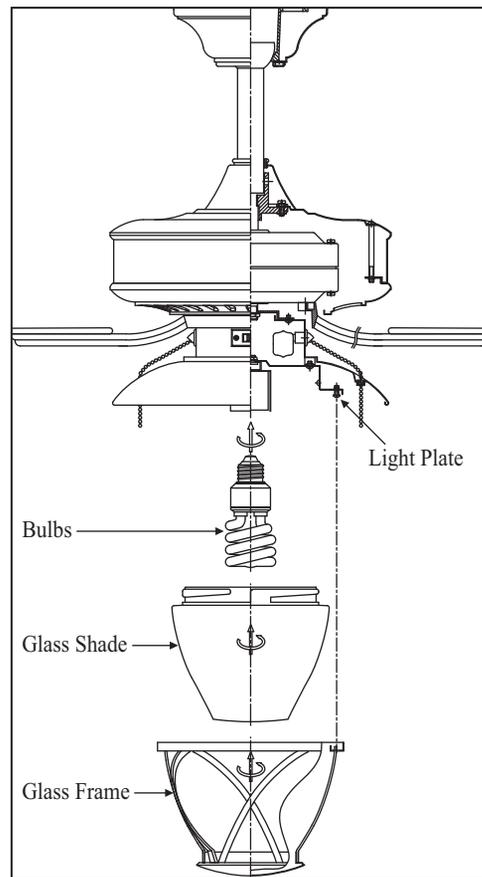

Figure 20
5. Raise glass shade up against light plate and secure it to fan by twisting glass clockwise until snug. **Do not overtighten.** (Fig. 20)
6. Loosen the 4 screws from the edge of light plate. (**Do not remove**) Place the key holes on the glass frame over the 4 screws previously loosened from the light plate, turn the glass frame until it locks in place at the narrow section of the key holes. Secure by tightening the 4 screws. (Fig. 20)